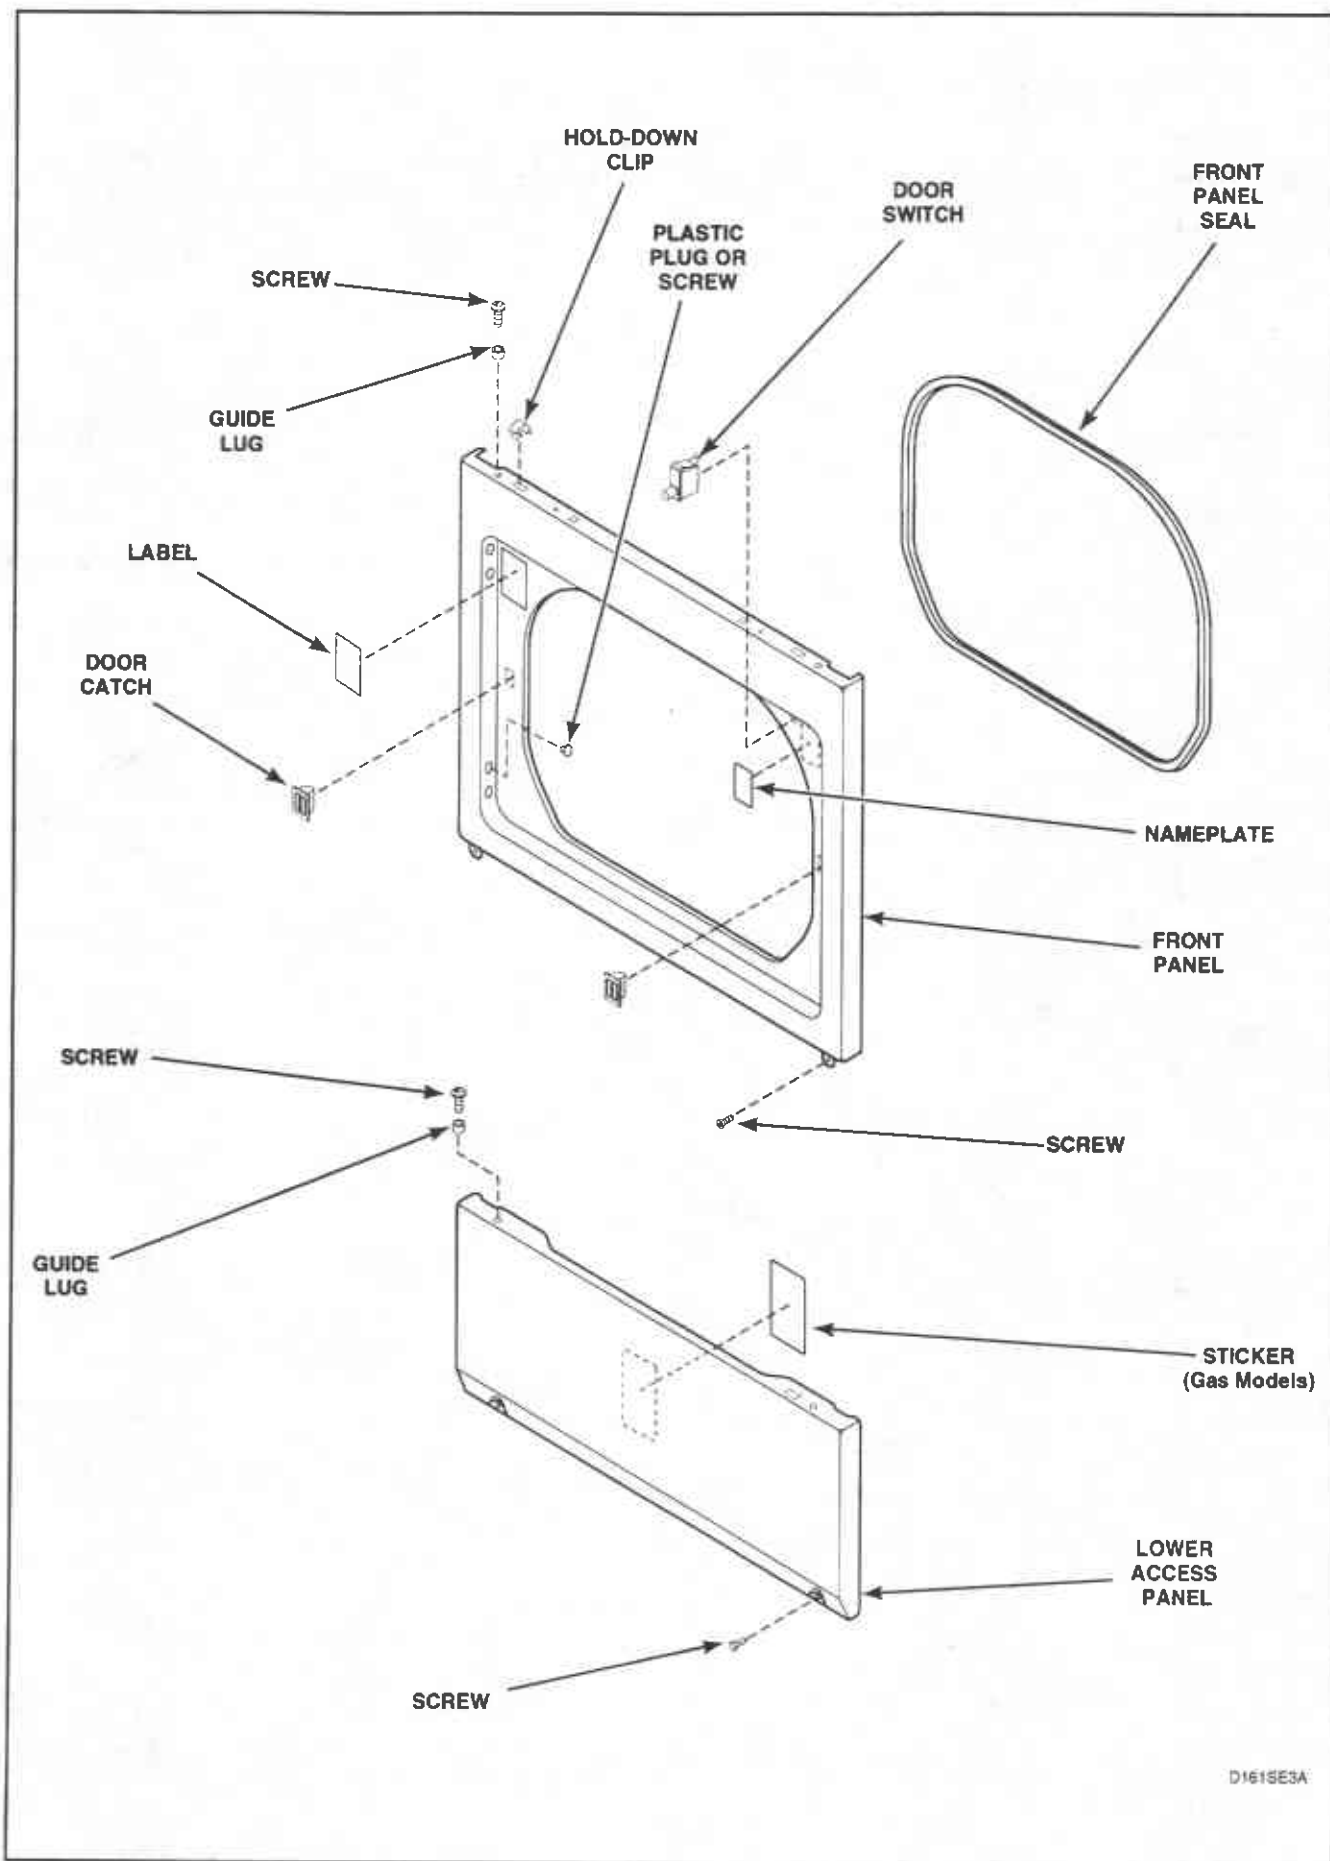
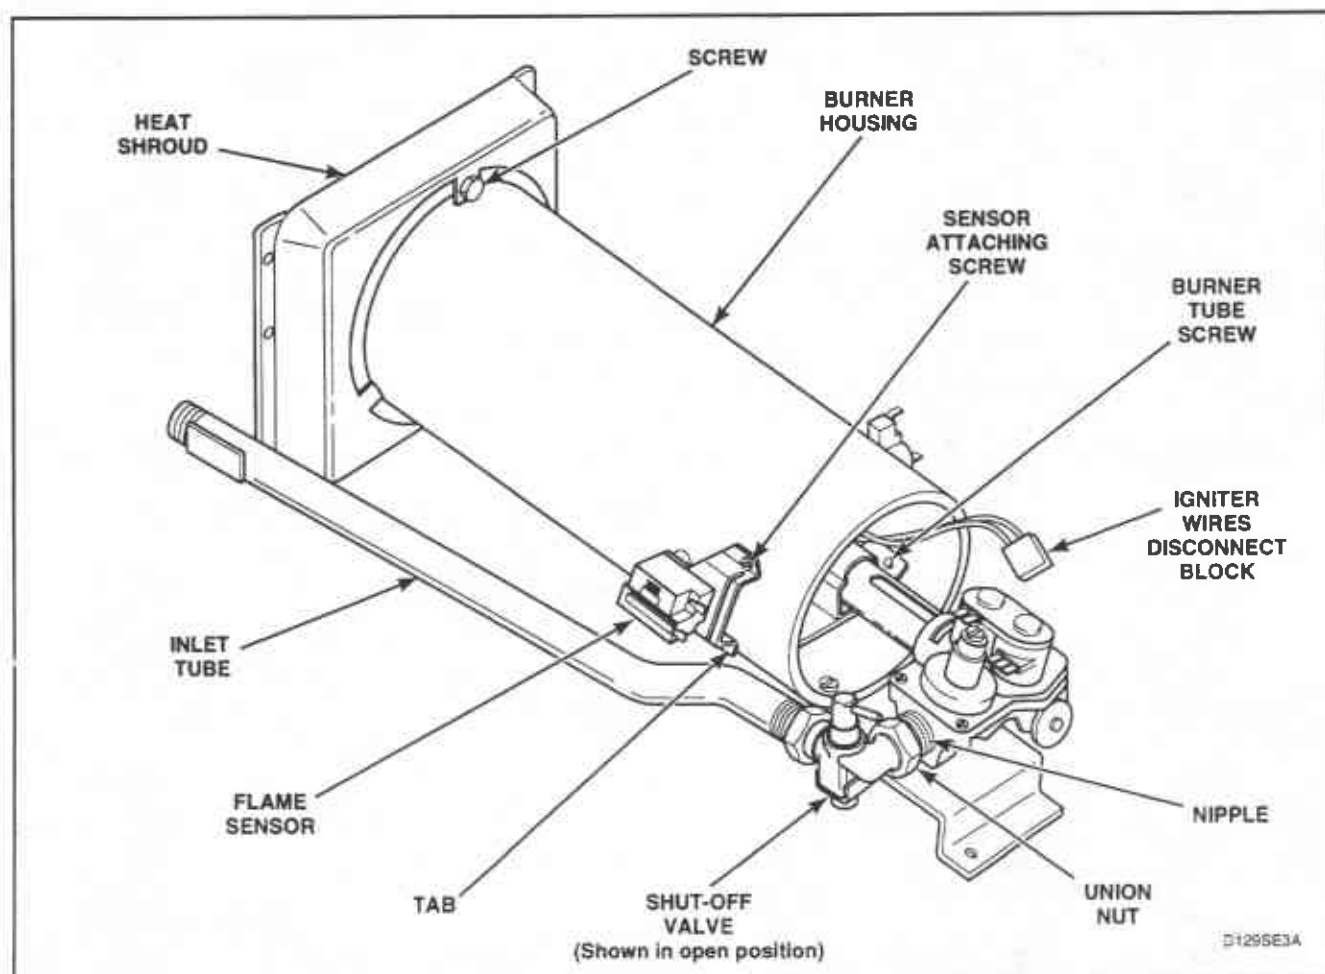
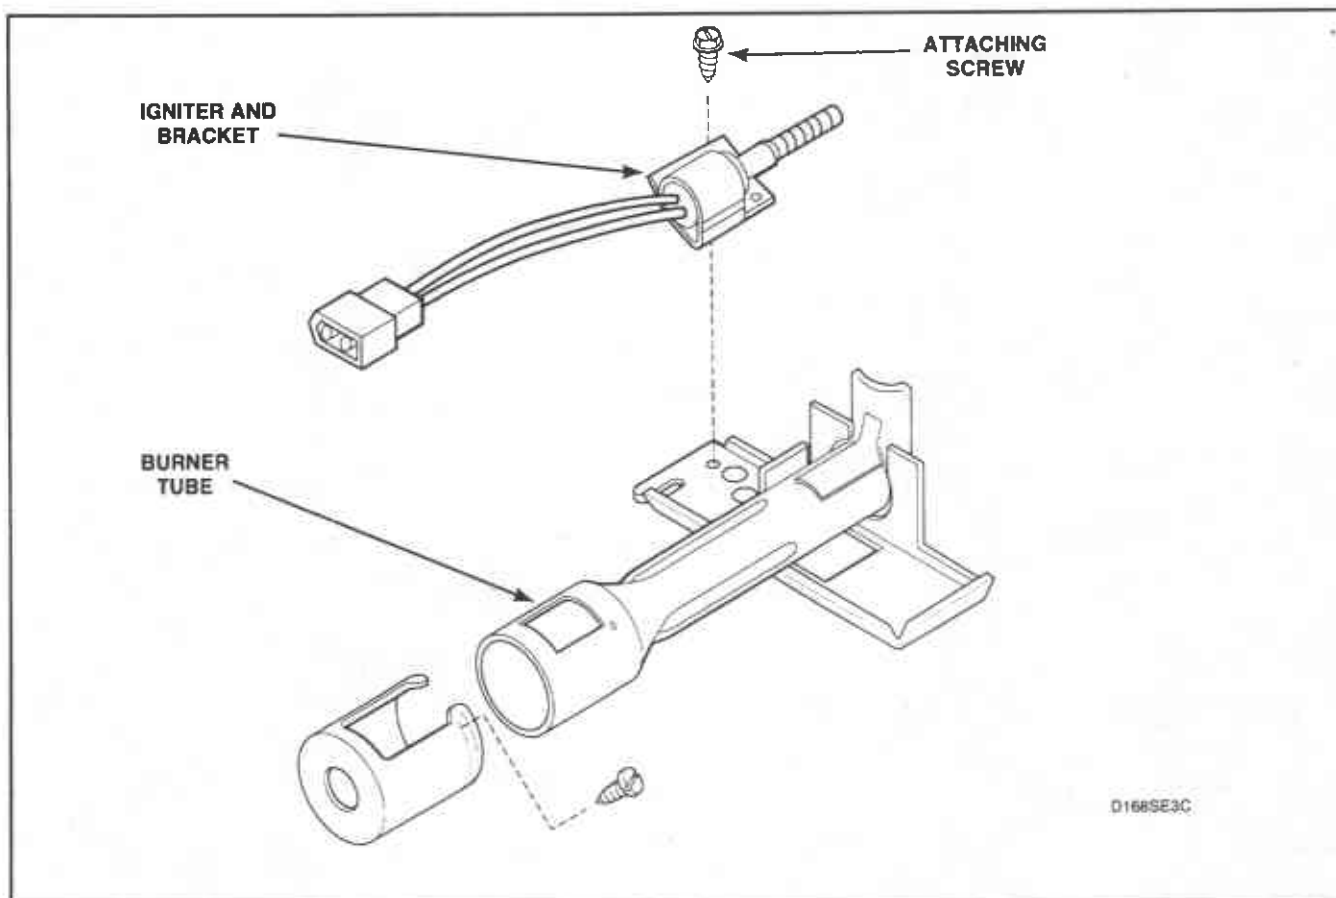

Figure 22
Figure 24
Figure 25
- While supporting the lower access panel, remove two screws from bottom edge of lower access panel, *Figure 22*.
- Remove two screws holding bottom tabs on front panel to dryer side panels, *Figure 22*. Swing bottom of front panel away from dryer far enough to disengage hold-down clips and guide lugs from cabinet top.
- Remove front panel seal from flange around inside of door opening, *Figure 22*.
- Remove two screws holding tabs on front panel to dryer side panels, *Figure 22*. Swing bottom of front panel away from dryer far enough to disengage hold-down clips and guide lugs from cabinet top.
- c. Remove two screws holding bottom tabs on front panel to dryer side panels, *Figure 22*. Swing bottom edge of front panel away from dryer far enough to disengage hold-down clips and guide lugs from cabinet top.
- a. While supporting the lower access panel, remove two screws from bottom edge of lower access panel, *Figure 22*.
- f. Remove four screws holding four guide lugs to access panel or front panel, *Figure 22*.
- (1) While supporting the lower access panel, remove two screws from bottom edge of lower access panel, *Figure 22*.
- (2) Gently lower the access panel to disengage guide lugs from bottom edge of front panel.
- (3) Close gas shut-off valve, disconnect igniter wires at disconnect blocks, sensor wires from flame sensor terminals, and wires from gas valve coils at the quick disconnect blocks, *Figure 24*.
- (4) Disconnect gas shut-off valve from gas valve at the union nut, *Figure 24*.
- (5) Remove three screws holding valve and mounting bracket to base, *Figure 24*.
- (6) Lift gas valve and mounting bracket from base, *Figure 24*.
- (2) Gently move burner tube toward rear of dryer to disengage tab from slot on left side of burner housing, *Figure 24*.
- (3) Carefully rotate burner tube and igniter **counterclockwise** so tab is at 8 o'clock position.
- (4) Move air shutter end of burner tube slightly to right and **CAREFULLY** remove burner tube and igniter assembly out through front of dryer.
- (5) Remove screw holding igniter and bracket to burner tube and remove igniter and bracket, *Figure 25*.
c. Flame Sensor, *Figure 24*.
- (3) Remove wires from sensor terminals, *Figure 24*.
- (4) Remove screw holding sensor to burner housing, *Figure 24*.
- Disconnect igniter wires at disconnect blocks, sensor wires from flame sensor terminals, and wires from gas valve coils at the quick disconnect blocks, *Figure 24*.
- Gently move burner tube toward rear of dryer to disengage tab from slot on left side of burner housing, *Figure 24*.
- Remove screw holding burner housing to heat shroud, *Figure 24*.